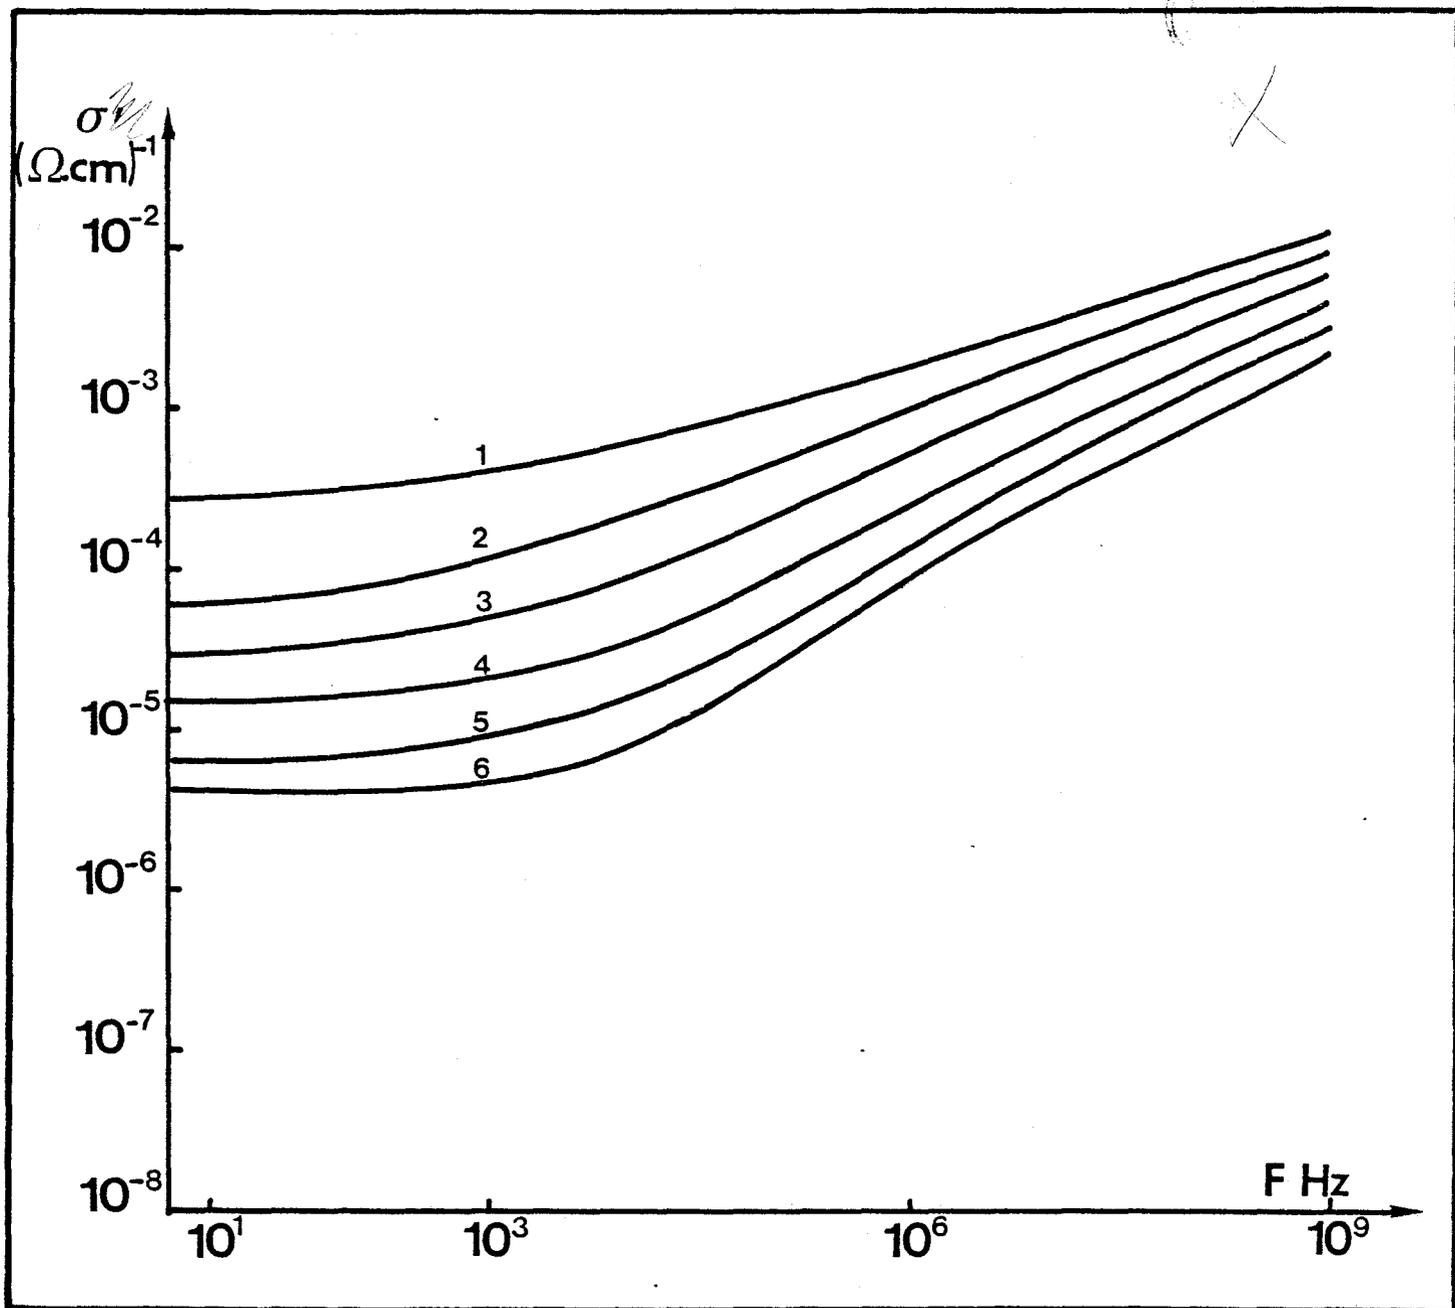

FIGURE F.1.8
- Figure F.1.8. $\sigma_{\text{total}}(\omega, T)$